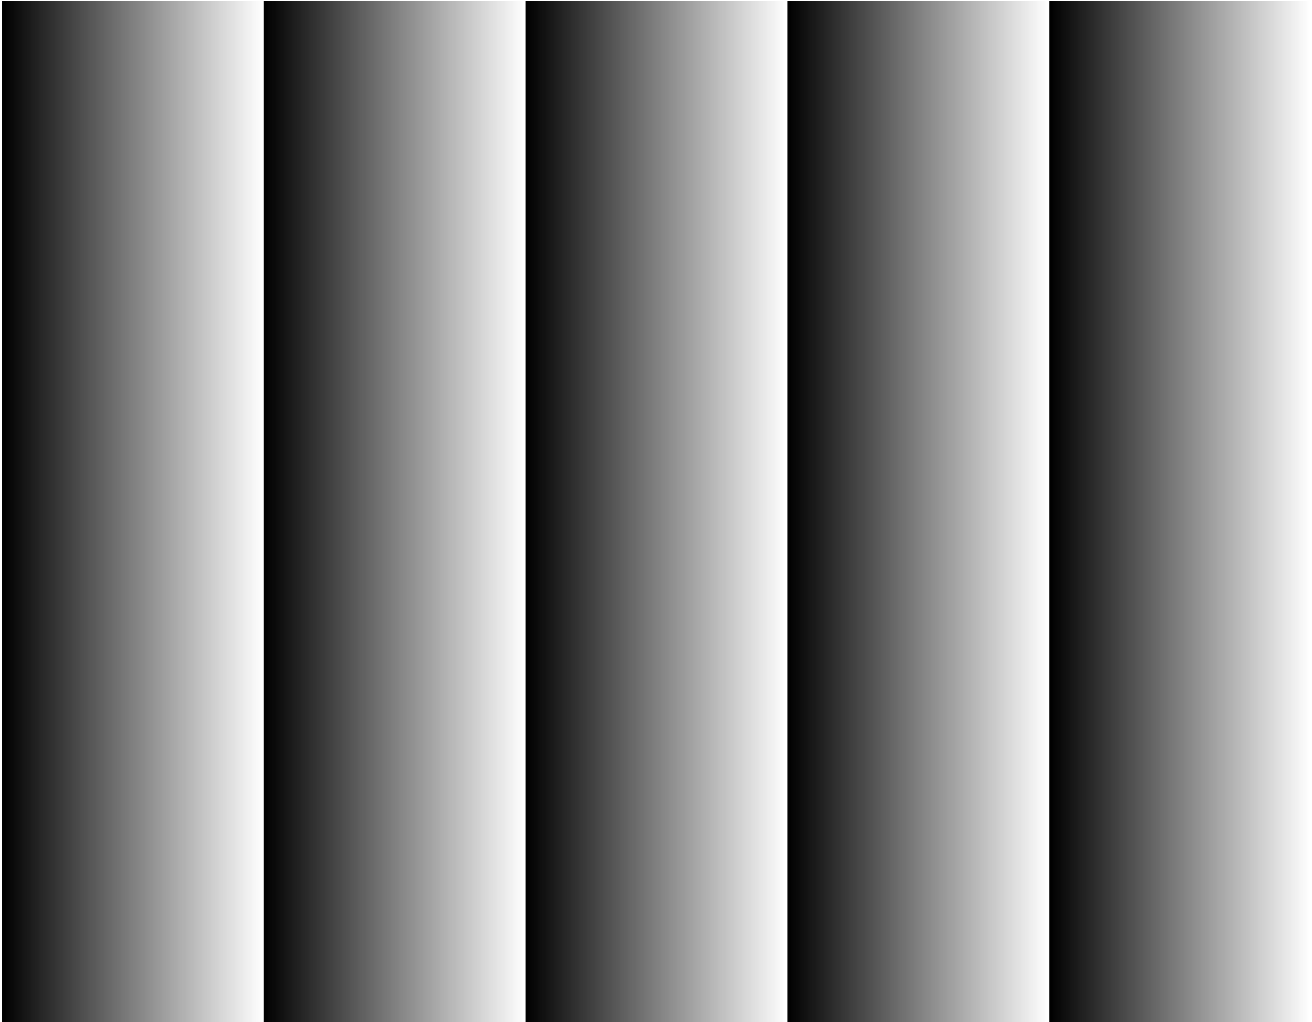

Figure 12 : Horizontal pattern
1. Horizontal ramp – a gray scale horizontal gradient as shown in Figure 12.